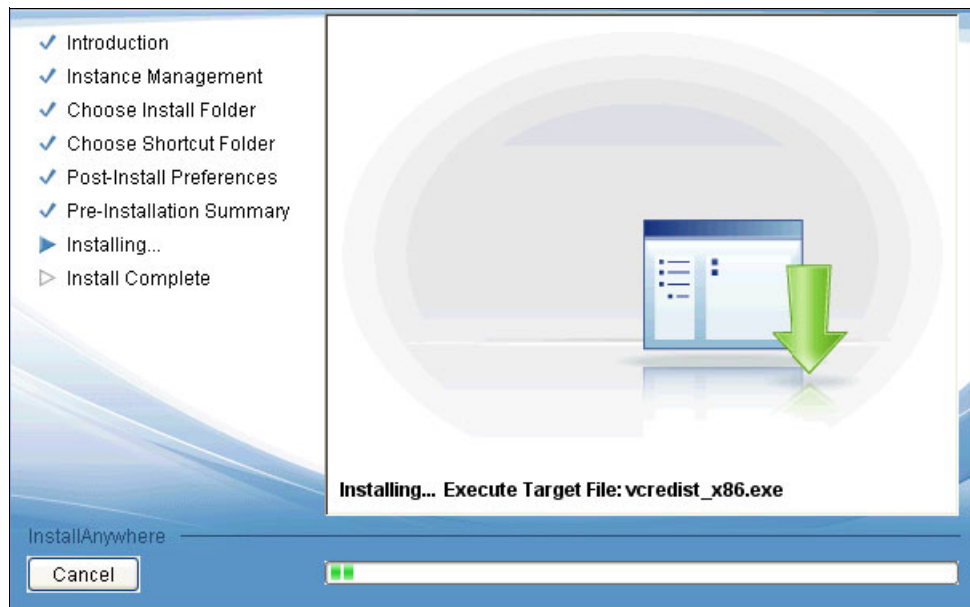

Figure 6-27 FastSetup installation
4. After the introduction page opens, click **Next** and follow the instructions to install the program. Figure 6-27 shows the installation GUI and steps taken to install.